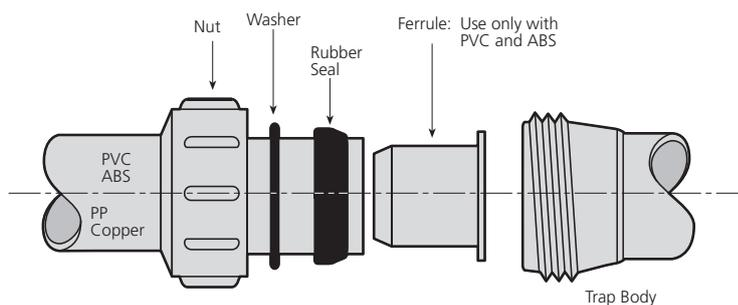

Fig.44 Trap parts
Trap outlet (Fig.44)
Step 4 – Dismantle trap outlet as shown (Fig.44)